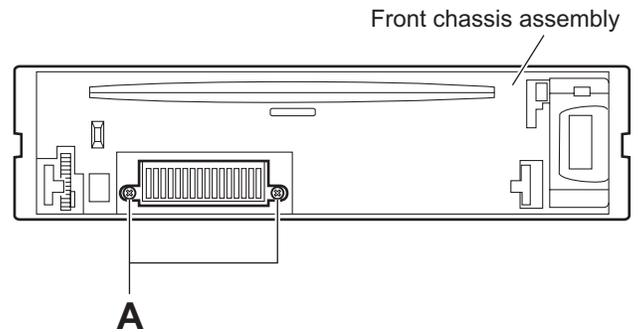

Fig.3
3.1.3 Removing the front chassis assembly (See Figs.3 and 4)
- (1) Remove the two screws **A** on the front side of the main body. (See Fig.3)